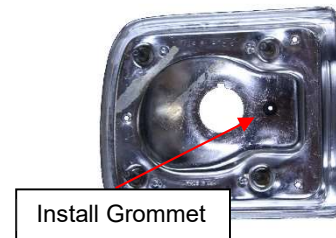

Figure 2
3. OPTIONAL: If sequential patterns are desired, drill a 3/16" diameter hole just below the bulb socket on the taillight housing. (See Figure 2) Then install provided rubber grommet into the drilled hole. One method to simplify installation is to pinch grommet, insert protruding edge into the hole, then use a small flat blade screwdriver to push/work the remaining edge through the hole.